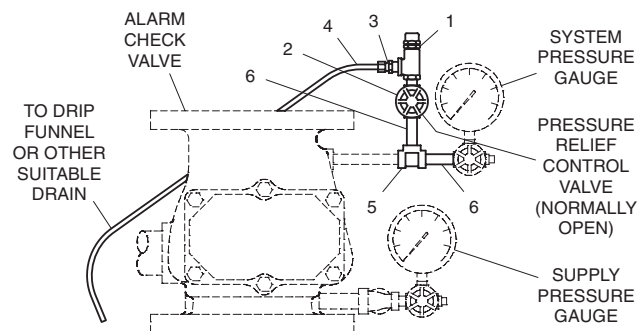

FIGURE 1
The Pressure Relief Trim For Alarm Check Valves (Ref. Figure 1) is designed for installation in the system pressure gauge connection of alarm valves. It automatically relieves the over pressure that could otherwise be created in wet pipe systems that are exposed to significant increases in ambient temperature. In particular, a gridded wet pipe system with relatively small air pocket and no relief valve can be subjected to an increase in pressure of more than 100 psi (6,9 bar), due to an increase in ambient temperature of approximately 50°F/10°C.
Step 2. Assemble the components as shown in Figure 1. Apply pipe thread sealant sparingly to male threads only.
Specify (description) for use with Pressure Relief Trim, P/N (See Figure 1).